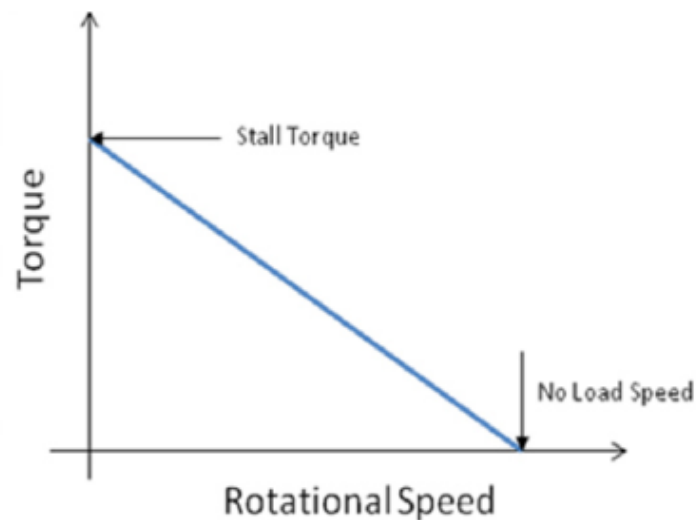

Figure 4: Torque vs. Speed
3. A separately excited as a torque vs. speed curve like the one in figure 4.